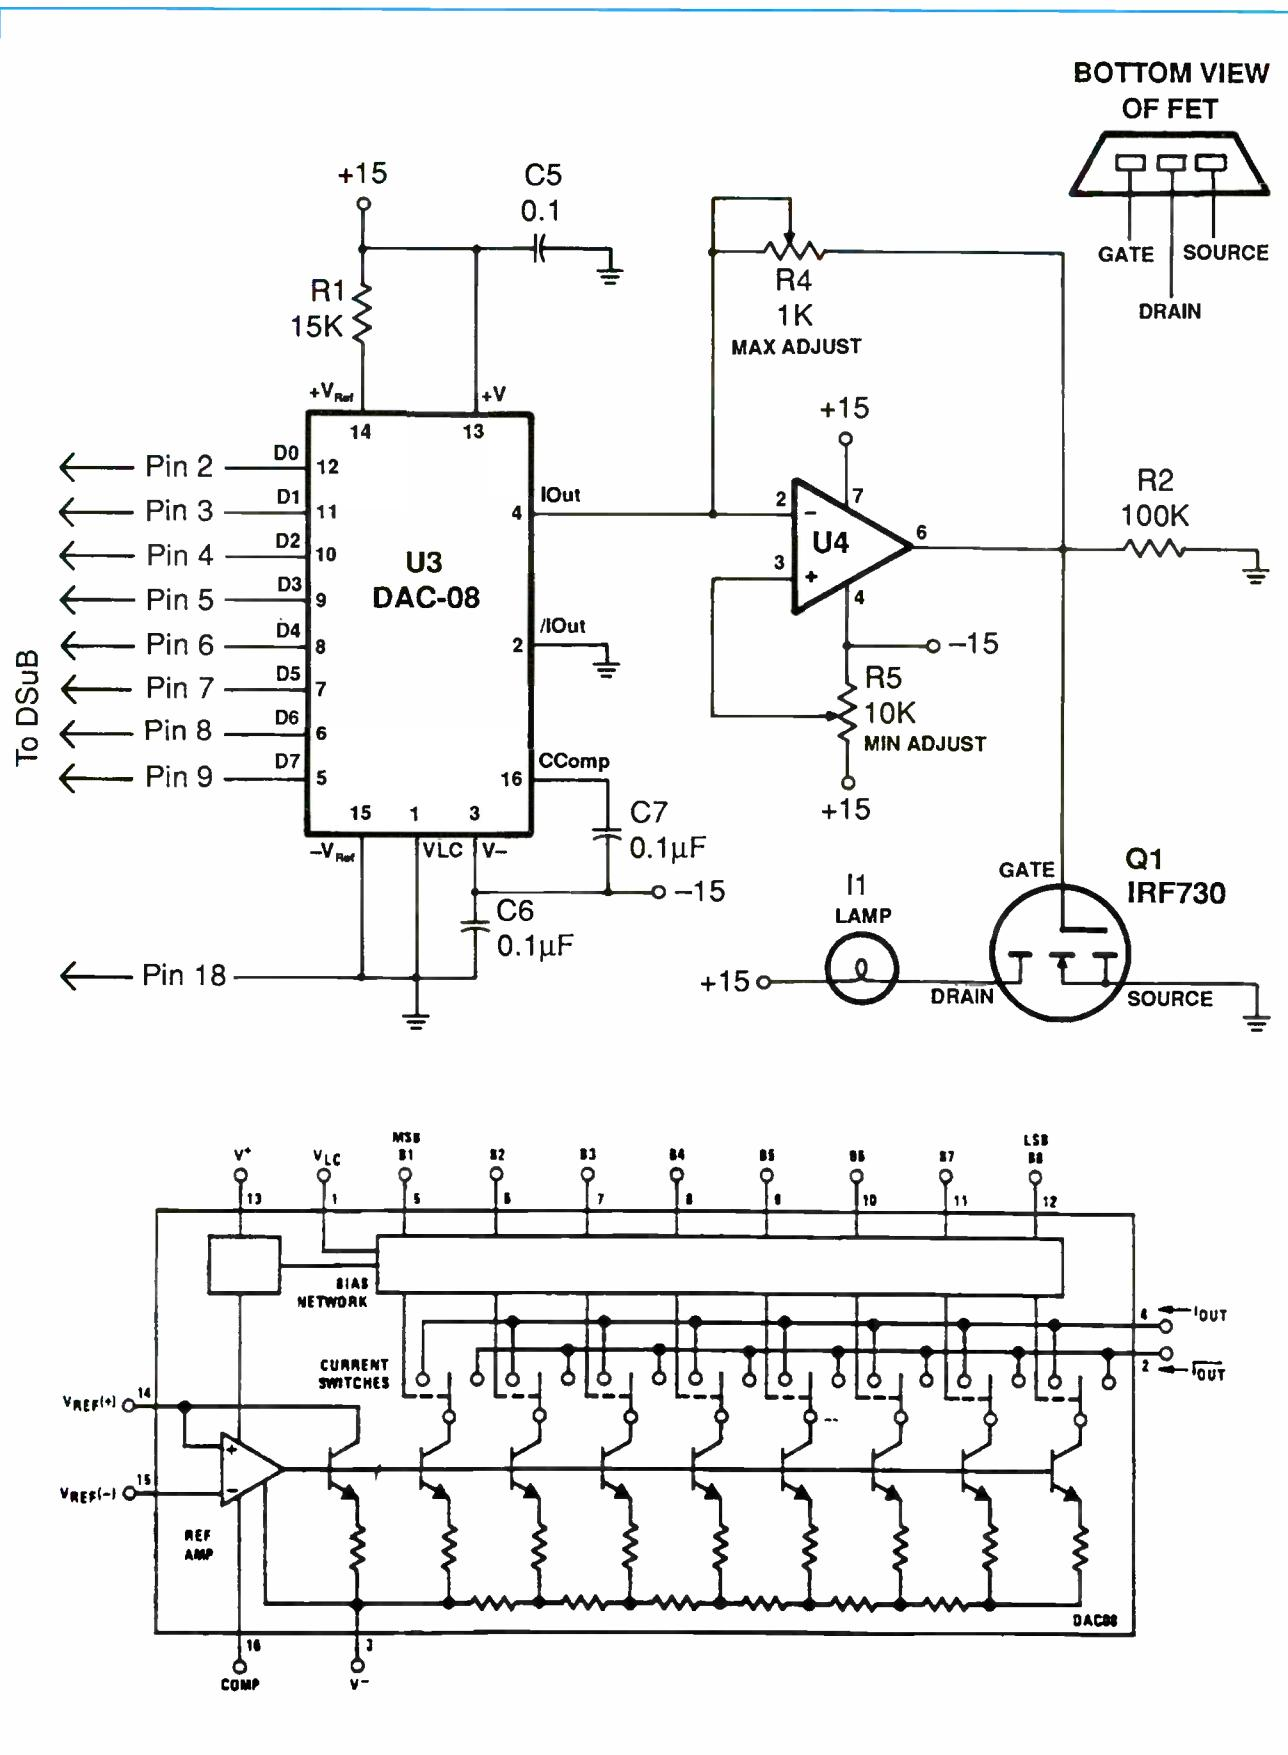

Fig. 4. Output circuitry for fuzzy-logic interface and pinout diagram for National Semiconductor DAC-08 digital-to-analog converter chip.
• **Digital-to-Analog Converter.** After reading the port and applying the value to the fuzzy system, the circuitry in Fig. 4 converts the digital output to a value that's used to drive a light source.
Digital-to-analog converter $U3$ has complementary current outputs that can be easily interfaced to several logic families. The equivalent circuit is shown in the pinout drawing in Fig. 4.
total current that flows through the output pins. It can be fixed, as in this application, or varied over a range of 40:1. This is what gives the DAC its multiplying ability. The current at the outputs can be changed by either changing the digital input or by adding/subtracting current to/from this pin. To illustrate, the reference in Fig. 4 is 15 volts, fed to pin 14 through $R1$. This generates 1 mA (15 volts/15,000 ohms) of constant current at output pins 2 and 4. Now add a 1,000-ohm resistor to pin 14 and inject a 1-volt peak-to-peak sine wave. The current at the outputs now becomes the combination of the 1-mA fixed reference plus the additional 1-mA ac. In other words, without changing the digital data, the current varies from the minimum of 0 (reference -1 mA) to a maximum of 2 (reference +1 mA).